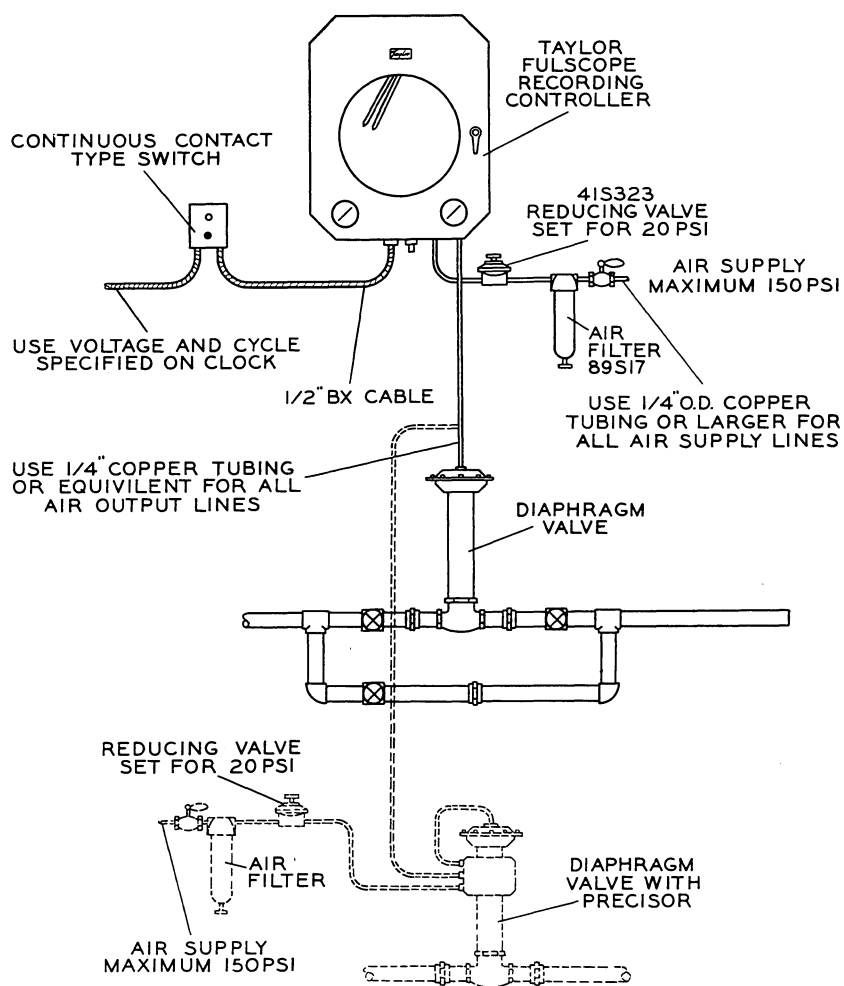

Fig. 3
Connect a clean dry air supply to the controller and the Precisor as shown in Fig. 3. The Taylor Fulscope Controller consumes approximately 0.4 cubic feet of free air per minute. The Taylor Precisor consumes approximately .15 cubic feet of free air per minute. The air supply must be sufficient to supply all units.
Fig. 3 shows the connections to be made from the controller to the Precisor or control valve.
12. Open the air supply valves Fig. 3; close the manual control valve.